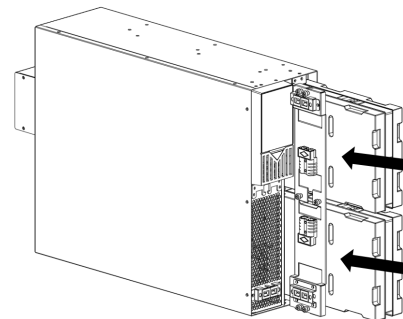

Figure 13
4. Locate the UPS to its final installation location. Once placed, re-insert the battery modules (FIG. 13)